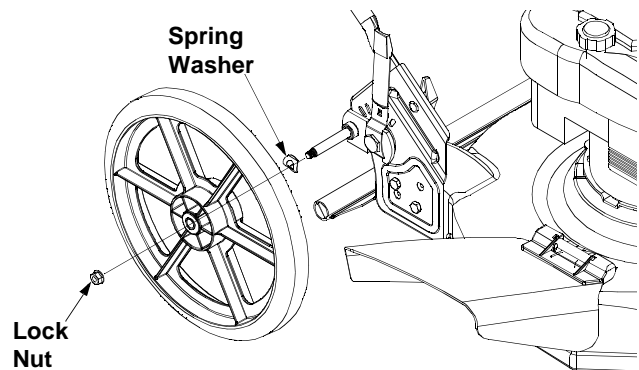

Figure 6
- Place spring washer (cupped side toward handle bracket assembly) on the axle that extends from the pivot arm assembly. See Figure 6.